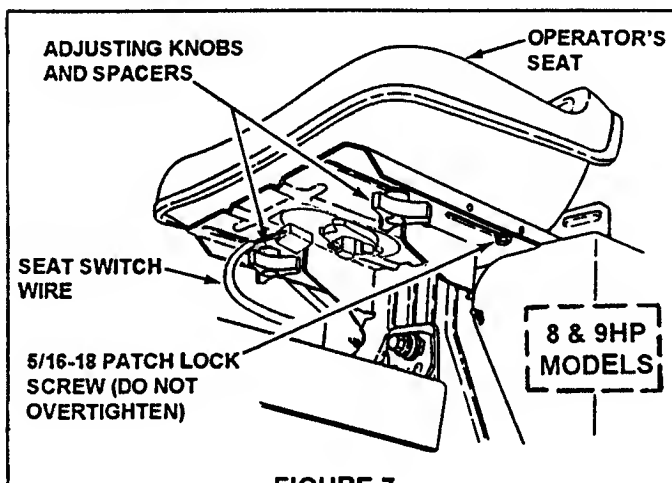

FIGURE 7
2. Connect seat switch wiring harness to male tabs of seat switch (under seat). See Figure 7.
7. Adjust seat to desired position. Partially tighten rear screws, allowing seat to slide front to back. Tighten adjusting knobs to secure seat in position. See Figure 7.